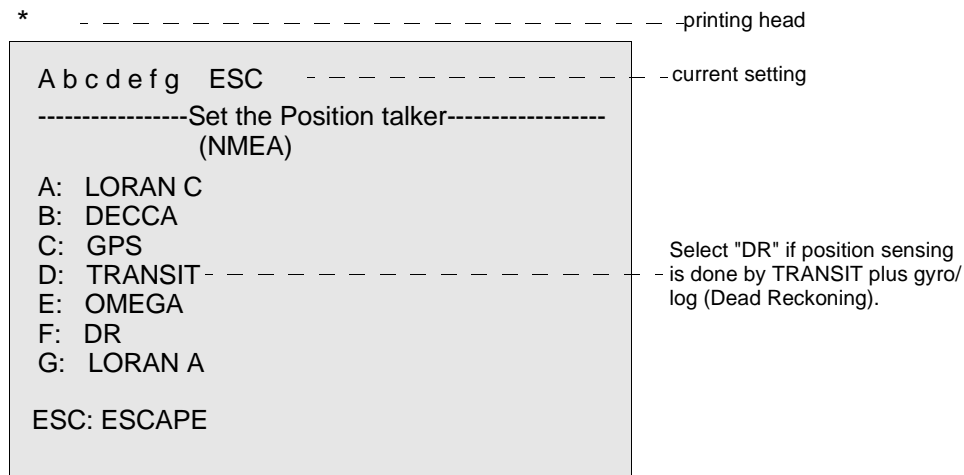

Figure 18. Main Menu Printout
50. After the ENT key (figure 3, item 4) is pressed, the position talker menu is printed out (figure 18).